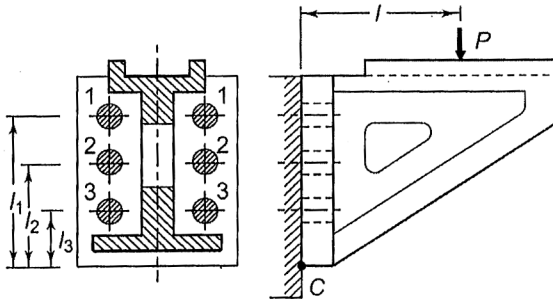

Fig. Q3d
d) A bracket is fastened to the steel structure by means of six identical bolts as shown in Fig. Q3d. Assume the following data: $l_1 = 300$ mm $l_2 = 200$ mm $l_3 = 100$ mm $l = 250$ mm $P = 50$ kN. Neglecting shear stress, determine the size of the bolts, if the maximum permissible tensile stress in any bolt is limited to 100 N/mm². [10]